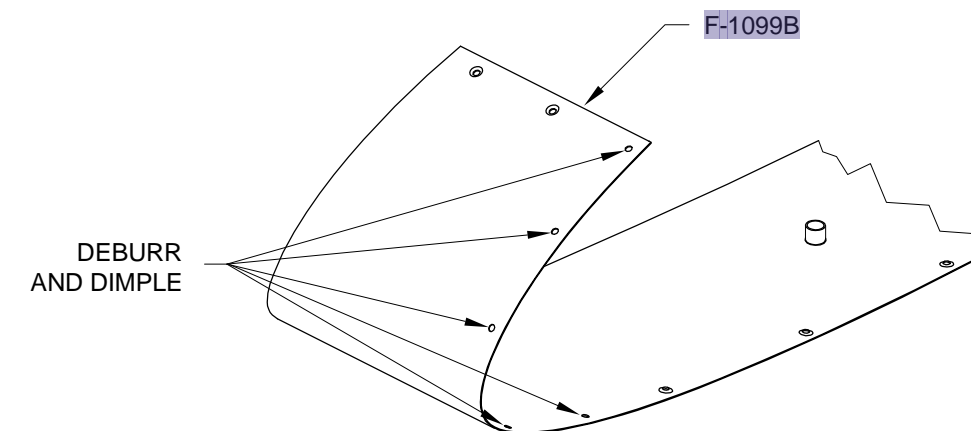

FIGURE 2:
Step 2: Remove the F-1099B Lower Wing Root Fairing. Deburr and dimple the five #19 holes used as drill guides earlier as shown in Figure 2.